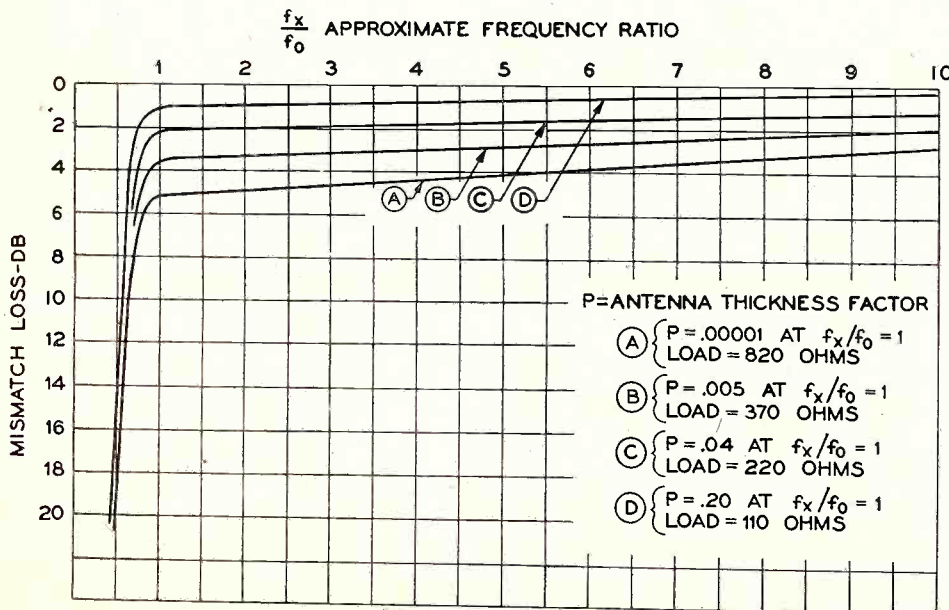

Fig. 3. The mismatch loss is shown for an intermediate case where the load matches neither the full- or half-wave point, but is equal to
The third case, where the load is selected to be the geometric mean of the half-wave and full-wave value (Fig. 3), requires load resistances of 820 ohms, 370 ohms, 220 ohms, and 110 ohms. By choosing these mean values, the mismatch loss curve is quite constant with frequency ratios above unity. It must be admitted, however, that this third case does not fully match at any frequency and we can expect that this will give rise to the possibility of assisting some reflections (line ghosts) at all frequencies. These reflections in the first and second case were completely eliminated at the matched frequency points, but became very serious at most other frequencies. The following approximations in Figs. 1, 2, and 3 have been made:
- b. Minor variations in Fig. 3, which may occur in practice, are not shown. These may cause the flat portion of the graph to exhibit cyclic dips of 1 db to 2 db between integral frequency ratios.
Let us note some important conclusions from these graphs. If we match an antenna at any resonance point, we find that the maximum loss at other frequencies may be relatively high. If we permit a small constant mismatch, the third case (Fig. 3), we get a loss at all frequencies,